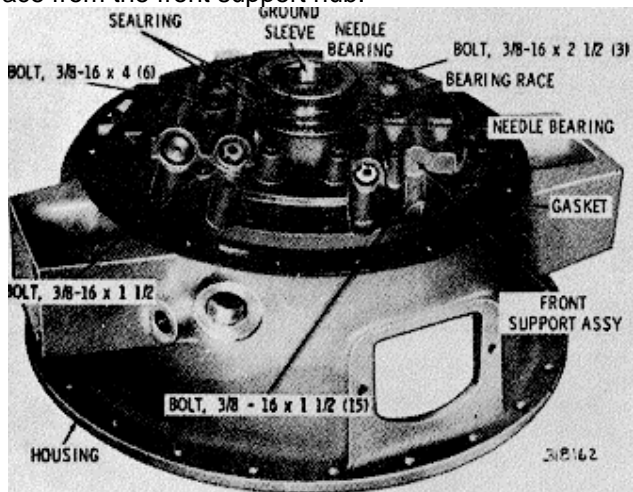

Fig. 6.13 Converter housing components (2.bolt cover, no retarder).
(1) Place the converter housing front downward (fig. 6-13). Remove two sealrings, needle bearing and race from the front support hub.
(7) Remove the spring compressor, and remove washer 6 (B, foldout 10), valve stop 5, spring 4, and main pressure regulator valve 3.
(8) Using the spring compressor, remove snapping 12, washer 11, valve stop 10, spring 9, and lockup shift valve 8.
(9) The spring compressor is not required for the remaining valve components. Push inward against valve support assembly 16, and remove snapping 19. Remove support assembly 16, seat 15, converter bypass valve 14, and spring 13.
(10) Remove the 19 bolts remaining in the front support assembly (fig. 6-13). Lift off the front support assembly and gasket.
(10) Place front support gasket 17 onto the converter housing. Aline holes in the gasket with those in the converter housing.
(11) Install front support assembly I (B, foldout 10) onto converter housing 16 (B, foldout 8).
(12) Install three 3/8-16 x 2 1/2-inch bolts into the front support (fig. 6-13). Tighten the bolts to 36 to 43 pound feet (49 to 58 Nm) torque.
(13) Install one 3/8-16 x 1 1/2-inch bolt into the hole between the two valve bores that are closer to each other (fig. 6-13). Tighten it to 36 to 43 pound feet (49 to 58 Nm) torque.